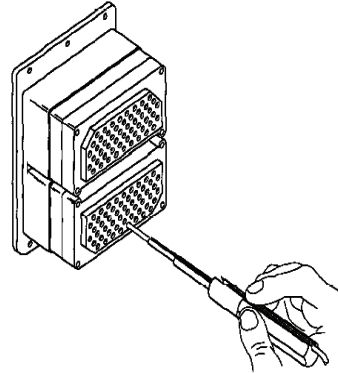

Figure 17. Removal Tool on Wire
- c. Slide removal tool along wire at a right angle to connector insert face and along with contact cavity (Figure 17).